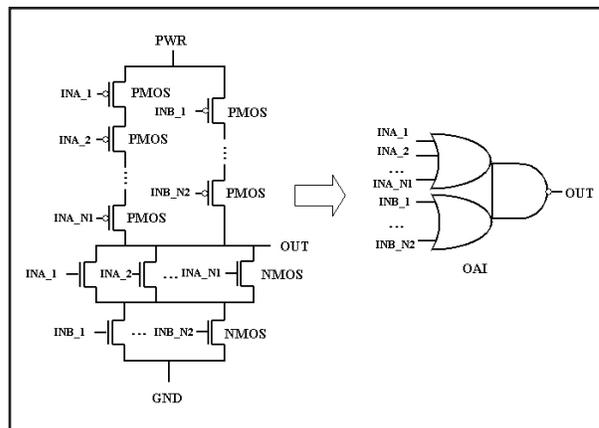

Figure 7. OAI_N1_N2
- **OAI_N1_..._NK** — CMOS OR-AND-Invert logical configuration represented by K OR elements with N1, N2, ..., NK inputs in each, accordingly, and AND-Invert block (Figure 7)
The input terminals inside each OR configuration of OAI gate are swappable. For example, in Figure 7 the inputs INA_1, INA_2, ..., INA_N1 are swappable, and the inputs INB_1, ..., INB_N2 can be swapped. Also the groups of NMOS transistors connected in parallel are interchangeable. So the parallel transistors connected to INB_1, ..., INB_N2 nets can be placed above the group of transistors connected to INA_1, INA_2, ..., INA_N1.